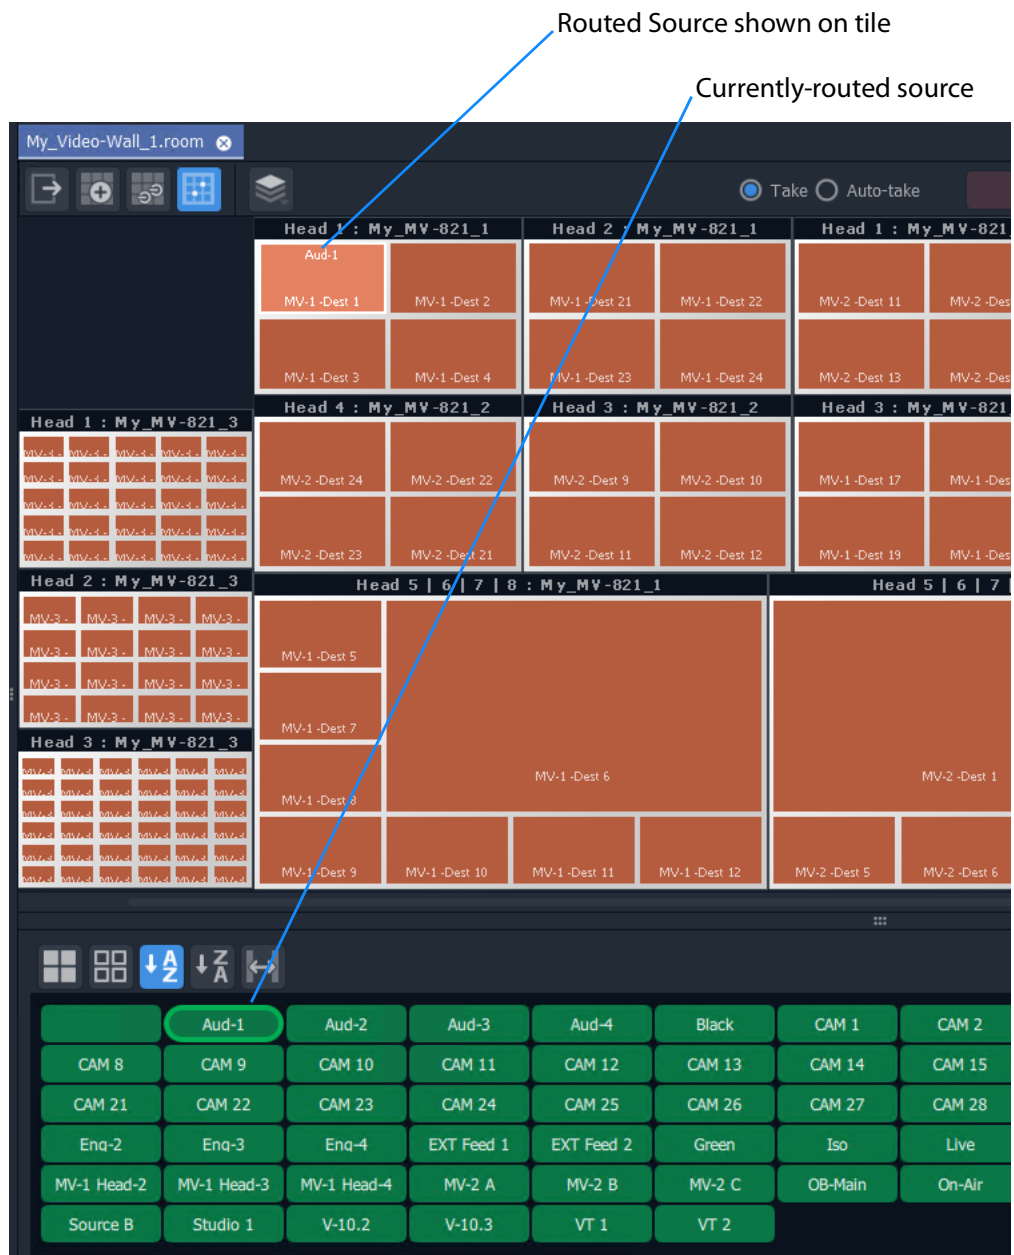

Fig. 14-84: Routed Result
- a) the selected tile position (see Figure 14-84); and also to